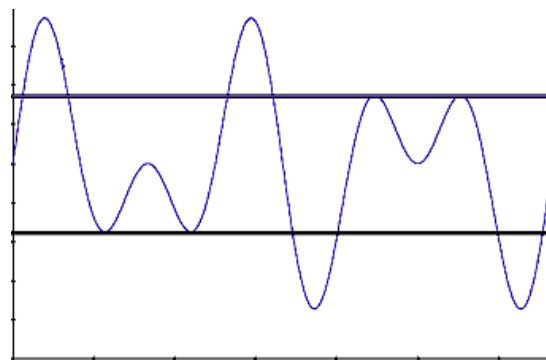

Figure 3 - CSB Waveform (Kissing Pattern)
- Check for the correct kissing pattern (see Figure 3)